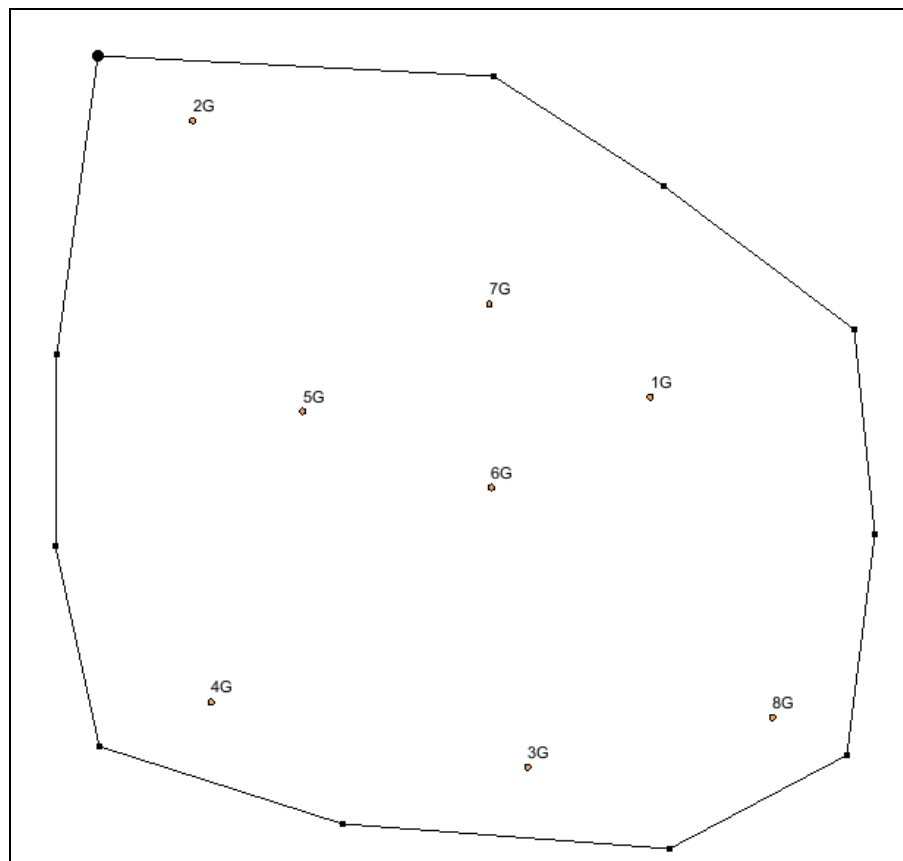

Figure 10 Map polygon surrounding boreholes
6. Using the **Create Arc**  tool, click out a closed arc surrounding all of the boreholes, as in Figure 10. Double-click on the starting point to close the polygon.